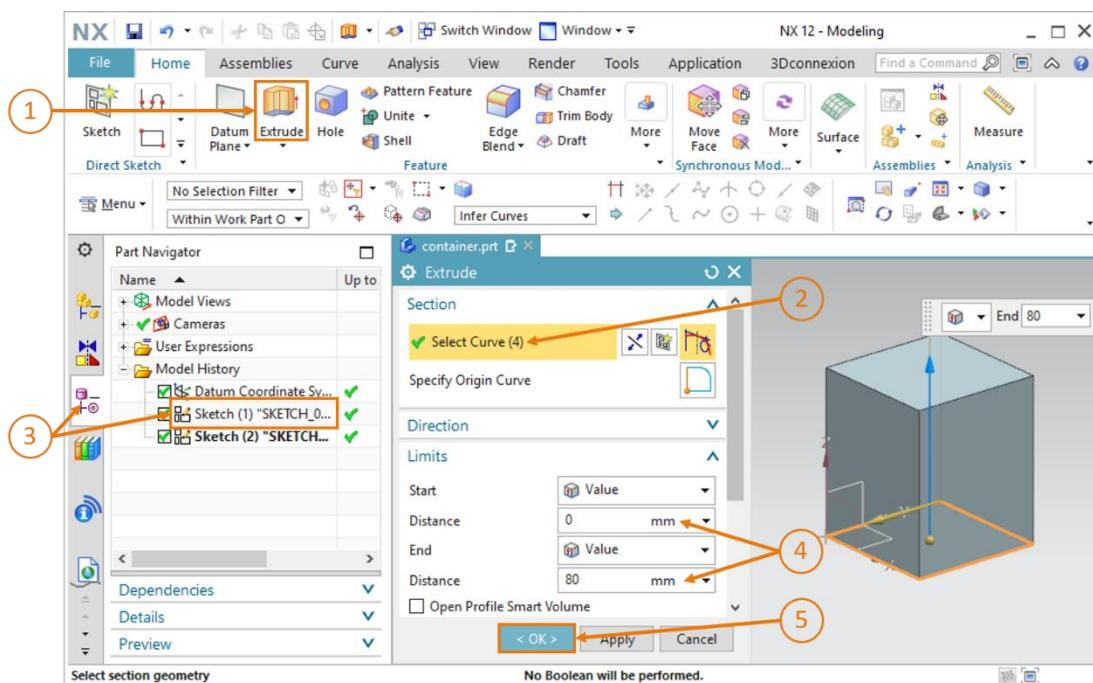

Figure 27: Modeling the outer form of the container with "Extrude"
- You should now see both sketched squares in the graphics window. Now, switch back to the trimetric view. Begin converting the first square into a three-dimensional cuboid. This is to represent the outer form of the container. Use the "Extrude" command again to implement this (see Figure 27, step 1). In the "Extrude" window, click on "Select Curve" (see Figure 27, step 2). Switch to the Part Navigator in the Resource bar, and select "Sketch (1) "SKETCH\_000" " (see Figure 27, step 3). In the Limits submenu, select a distance of **0 mm** for the start value and a distance of **80 mm** for the end value (see Figure 27, step 4). Confirm your entries with the "OK" button (see Figure 27, step 5). You have now generated the outer form of the container.